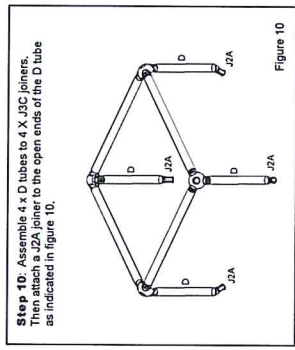

Figure 10
**Step 10:** Assemble 4 x D tubes to 4 x J3C joiners. Then attach a J2A joiner to the open ends of the D tube as indicated in figure 10.